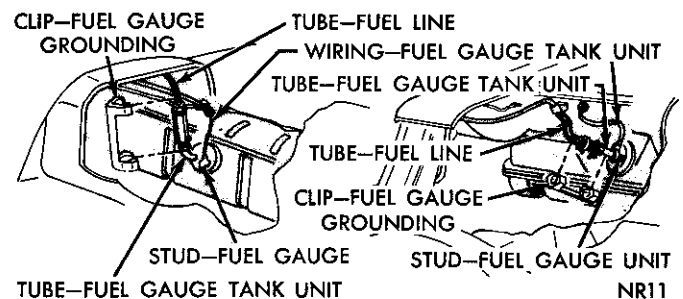

Fig. 4—Fuel Tank Ground Strap
(1) Position fuel tank gauge unit in tank, using a new gasket. Tighten securely, using Tool C-3582.
(2) Work fuel tank up into position in quarter panel. Move rearward until filler tube is centered in opening of quarter panel. Place straps in position and install nuts. Tighten to 40 inch-pounds. Bottom strap should be tightened first.
(3) Install fuel line and connect ground strap (Fig. 4), and fuel gauge wire.
(4) Raise hoist far enough to engage spring hanger with frame.
(5) Position left rear spring hanger at frame and install attaching bolts. Tighten to 30 foot pounds.
(6) Slide shock absorbers over pivots and secure with nuts. Tighten to 50 foot-pounds.
(7) Install brake drum on axle flange.
(8) Slide stone shield up into position. Install attaching screws and tighten securely.
(9) Install wheel and tire and tighten wheel nut to 65 foot-pounds, in sequence.
(10) Raise hoist and remove car stands.
(11) Install fender skirt (if so equipped) and lower vehicle to floor.
(12) Refill fuel tank and check for leaks.
(13) For testing fuel gauge (tank unit) refer to Electrical Group 8 "Gauges".